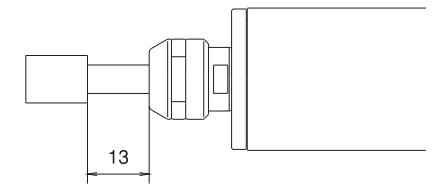

Fig.9
- ② Do not exceed 13mm overhang for mounted grindstones. In case overhang must exceed 13mm reduce the motor speed in accordance with Fig.9.
- ③ Do not use tools with bent or broken shanks, cracks or excessive runout.
- ④ Dress the grindstone prior to use.
- ⑤ For grinding the maximum depth of cut should not exceed 0.01mm radially or axially. Reciprocate the tool several times after each in feed step.
- ⑥ Always operate tools within the tool manufacturer's recommended speed limits. Use of a tool outside of the manufacturer's recommended speed limits could cause damage to the spindle and injury to the operator.
- ⑦ Keep the tool shank and collet clean. If contaminants are left in the collet they can cause excessive runout and damage the tool and spindle.
- ⑧ Do not drop or hit spindle.